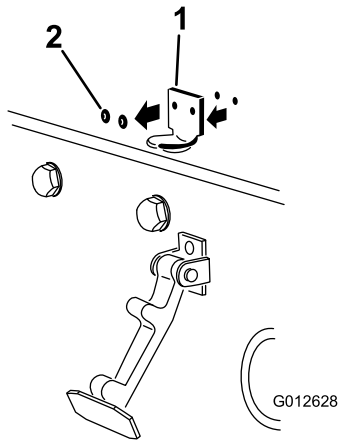

Figure 5
2. Remove the 2 rivets securing the hood-latch bracket to the hood (Figure 5).
Note: The lock bracket must be against the hood (Figure 5).